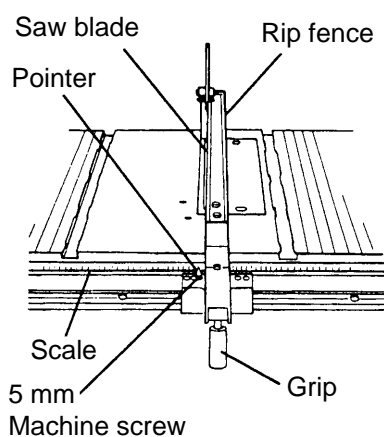

Fig. 17
- (1) Raise the grip to the upside and release the lock on the rip fence. And move the rip fence to bring it into tight contact with the side of the saw blade.
- (2) Make sure that the pointer points to 0 on the scale provided on the table.
- (3) If the pointer does not point to 0 on the scale,
- ① Lower the grip to the bottom and lock the rip fence.
- ② Loosen the 5 mm machine screw holding the pointer (see Fig. 17).
- ③ Adjust the pointer to the 0 position and retighten the 5 mm machine screw.
- ④ After adjustment, recheck to see that the pointer now points to 0.